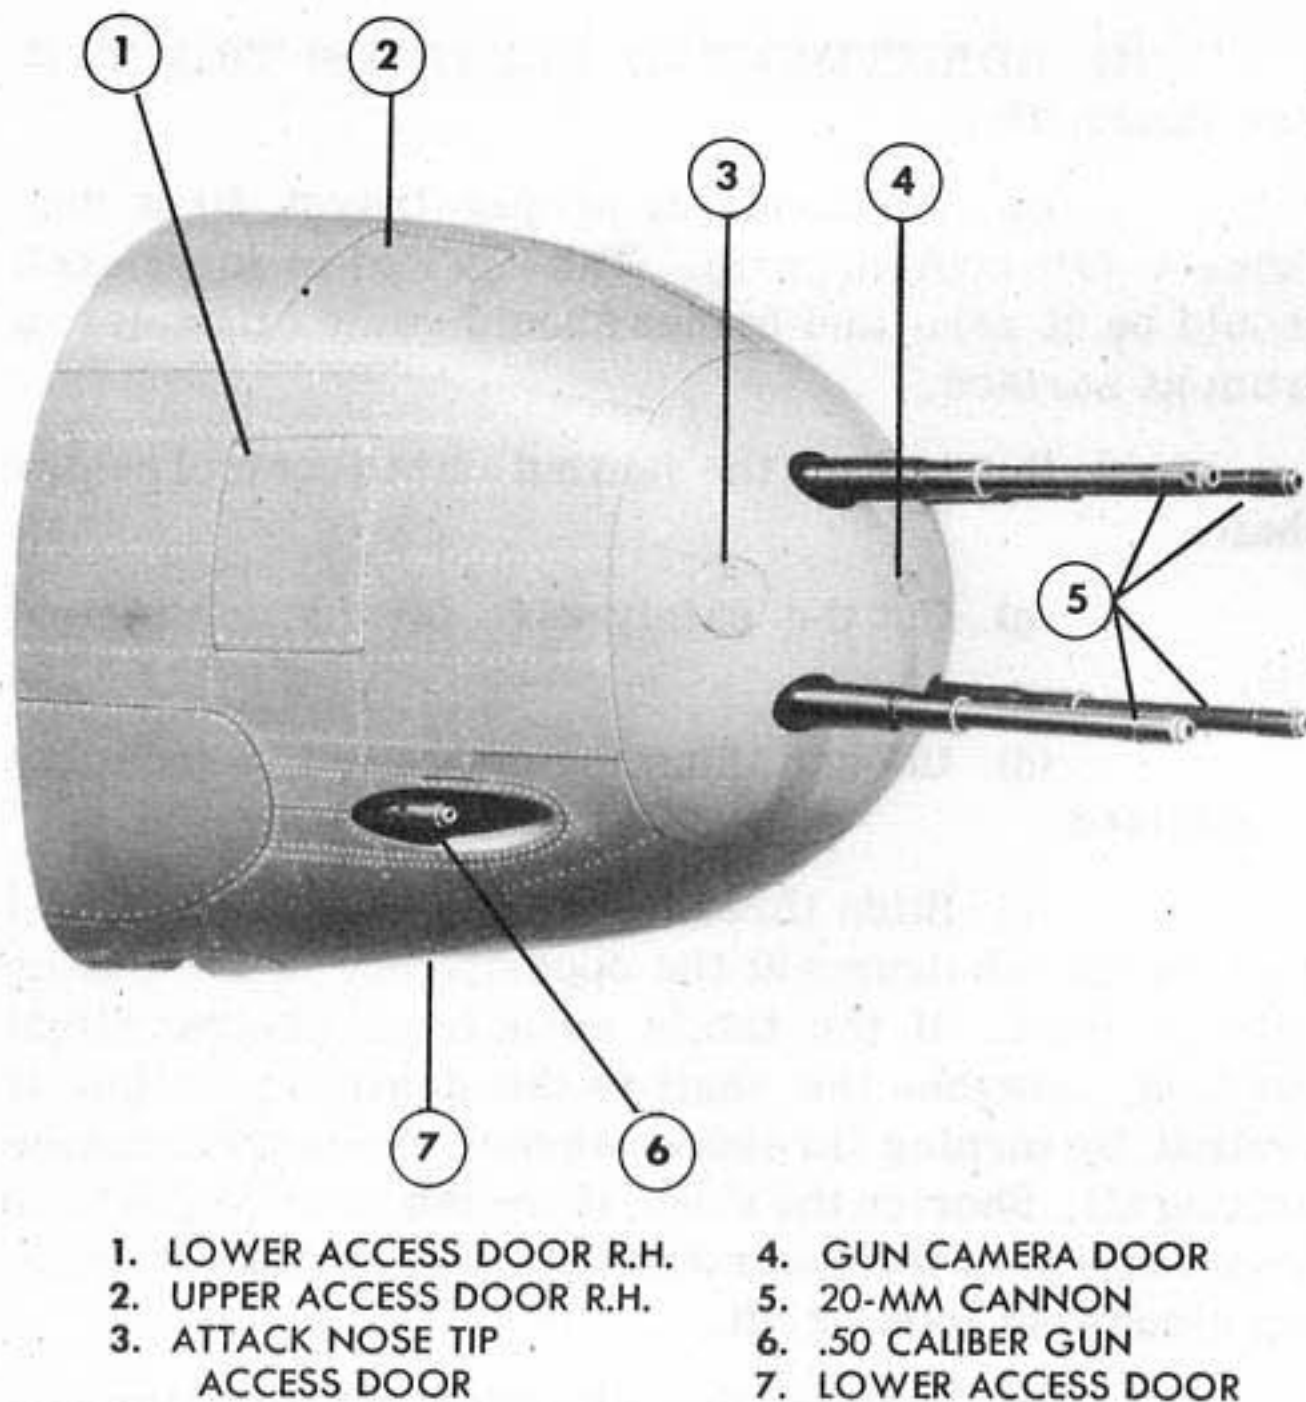

Figure 49 - ATTACK NOSE
(2) ATTACK NOSE. (See figure 49.) - The attack nose section (figure 49) forms the compartment for the forward armament of the airplane and attaches to the fuselage with ten internal-wrenching bolts at Station 0. (See figure 7.) Six fixed forward-firing guns are mounted in the attack nose. Ammunition boxes are installed alongside each gun in the center portion of the nose. A gun camera can be mounted in the center of the nose. Access for loading and servicing the two caliber .50 guns is through six doors in the sides of the nose. Two small doors (4 x 4 in.) are provided to feed ammunition through chutes. Four doors, two on each side and a large access door on the bottom of the nose provide access to the four center guns for loading and servicing.